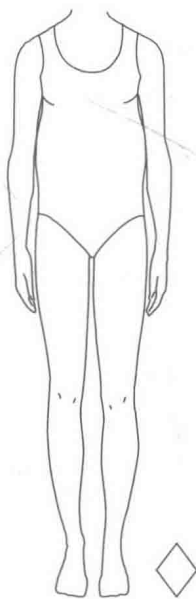

FIGURE 4.36
- The diamond figure type is not balanced in the typical sense, but appears out of balance due to weight concentrated around the middle of the body (see Figure 4.36).